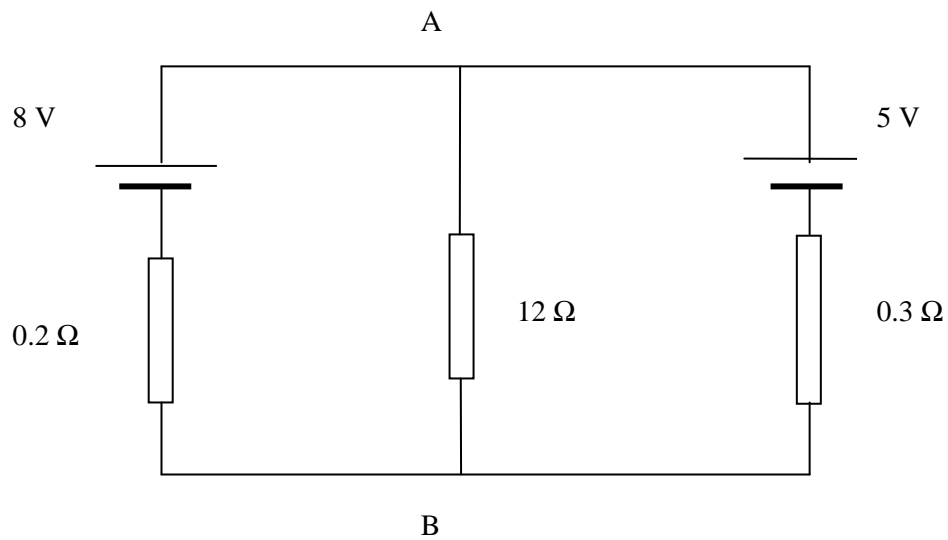

Fig Q1
1. (a) For the circuit shown in Fig Q1, calculate EACH of the following:
- (i) the current through the $12\ \Omega$ resistor; (8)
- (ii) the p.d. across each resistor. (3)
- (b) Calculate the voltage V_{AB} , if the $12\ \Omega$ resistor is now removed from the circuit. (5)